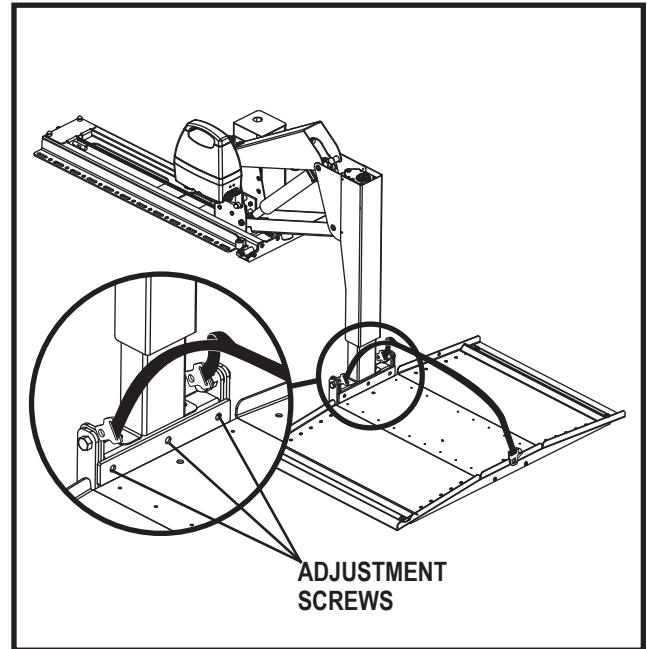

Figure 8. Platform Adjustment Screws
2. Remove the device from the platform for easy access to the three adjustment screws located where the platform connects to the lowering arm. **See figure 8.**